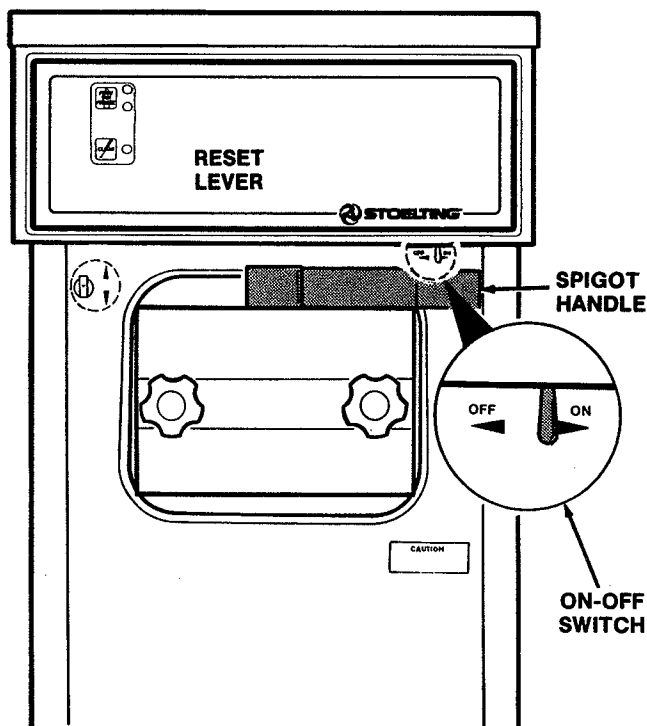

Figure 51. Control Locations
- Push the RESET LEVER (Fig. 51) to the UP (ON) position if it has tripped.